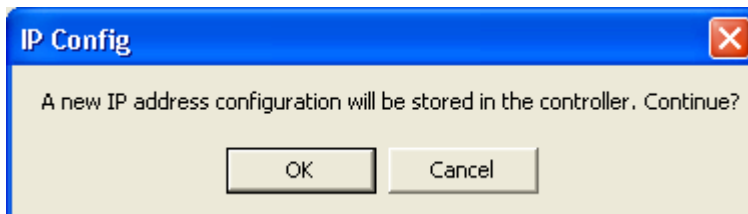

Figure 56. IP Config confirmation dialog window.
7. Click **Set IP**. The new address will be sent to the PLC and an IP Config window opens, see Figure 56.